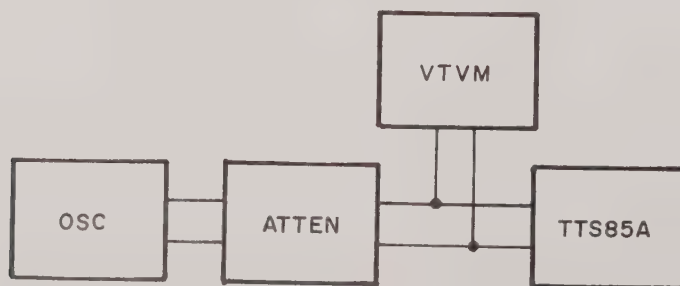

Figure 5-1 Test Set Up
5.3 Figure 5-1 is a schematic of the testing circuit for the calibration tests. The combination of jacks and binding posts for the input of the TTS 85A set makes it easy to connect the attenuator to the TTS 85A set and bridge the VTVM across the same input.